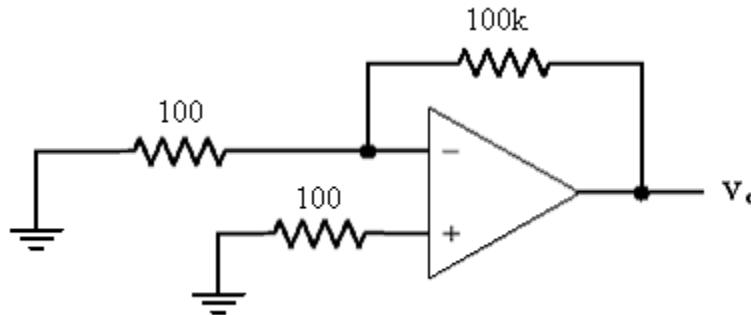

Figure 6-5: Offset Voltage Measurement Circuit
- a) Connect the circuit in Figure 6-5. Again make sure that you have powered the chip with the dual power supply ($\pm 15\text{V}$). This is called an inverting amplifier circuit. It will be analyzed in more detail in the next lab. For this test, the input to the amp is grounded. Measure the output voltage. This is the output offset voltage.